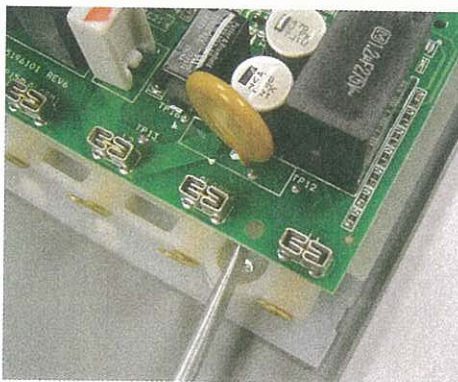

Figure 6
6. Place the flat head screwdriver between the circuit board and the terminal strip. Use a flat head screwdriver in a twisting motion to loosen circuit board from terminal strip (Figures 6, 7 & 8).